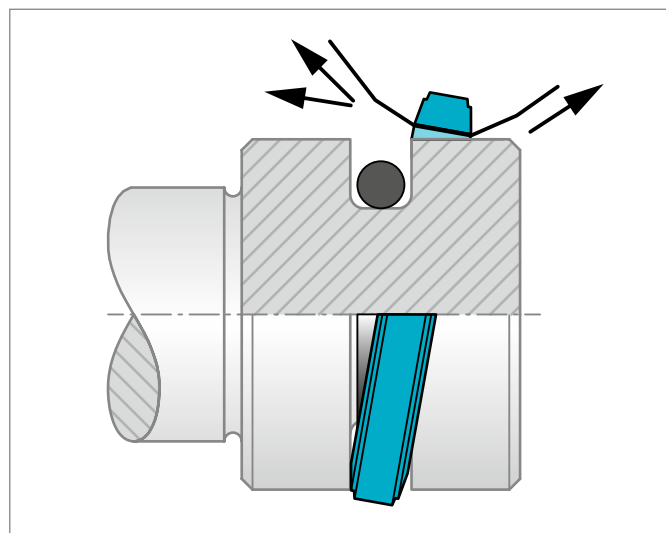

Figure 93: Fitting the seal ring onto the O-Ring in the groove
- Place the O-Ring in the groove and expand the seal ring over the piston, see Figure 93. Turcon® seals can be installed more easily by heating in oil, water or using a hot air fan to approximately 80 °C to 100 °C (expanding and then shrinking back to the original form).